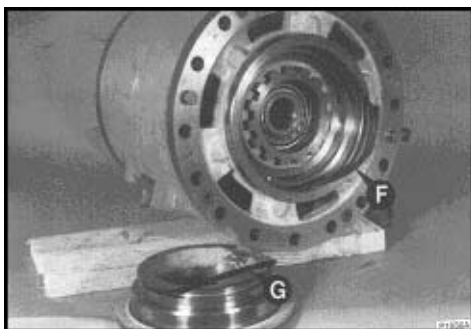

Fig 60.
- Fit new seals **F** and **G**. Make sure they seat squarely in their grooves → Fig 60. (□ 65).